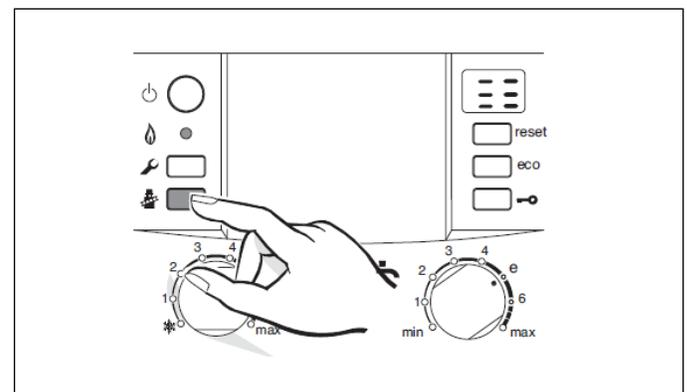

Figure 2
2. To start the process, press the Emissions button. It has an image of a chimney sweep on a ladder (see Figure 2).